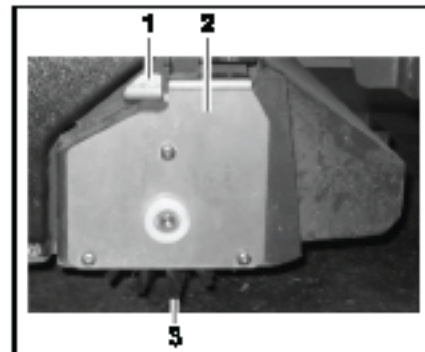
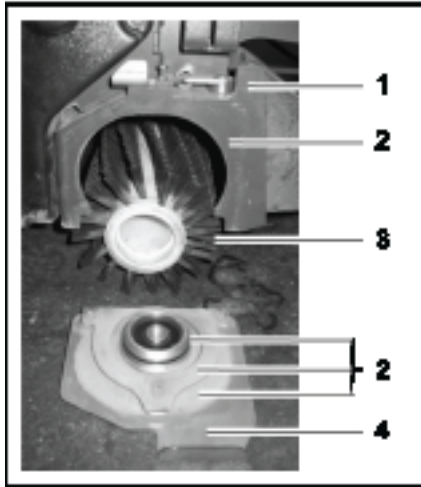

Fig 5
Fig 6
2. Slide the locking lever (Fig. 5/1) for the brush holder (Fig. 5/2) to the middle of the device and hold it there.
3. Allow the brush holder (Fig. 5/2) to lower down and remove it.
4. Release the locking lever (Fig. 5/1).
5. If necessary, remove the existing rotary brush (Fig. 5/13) from the housing (Fig. 6/1).
Ensure that the contact surfaces (Fig. 6/2) are clean. Clean them thoroughly, if necessary, before fitting them on the brush holder (Fig. 6/4).
8. Slide the locking lever (Fig. 5/1) to the middle of the device and hold it there.
9. Mount the brush holder (Fig. 6/4) on the rotary brush (Fig. 6/3), press against the housing (Fig. 6/1) and then slide upwards.
10. Pivot the locking lever (Fig. 5/1) back under the brush holder (Fig. 6/4) to the stop.